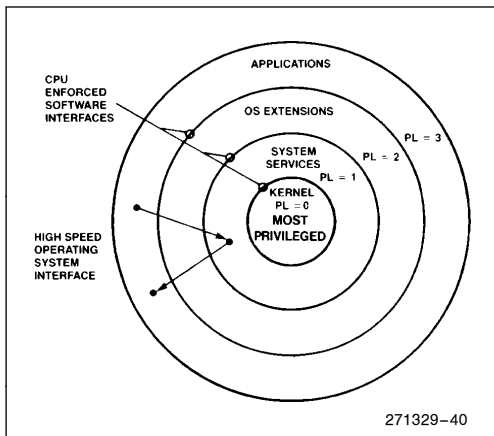

Figure 6-13. Four-Level Hierarchical Protection
The four-level hierarchical privilege system is illustrated in Figure 6-13. It is an extension of the user/supervisor privilege mode commonly used by mini-computers and, in fact, the user/supervisor mode is fully supported by the Military Intel486 processor paging mechanism. The privilege levels (PL) are numbered 0 through 3. Level 0 is the most privileged or trusted level.